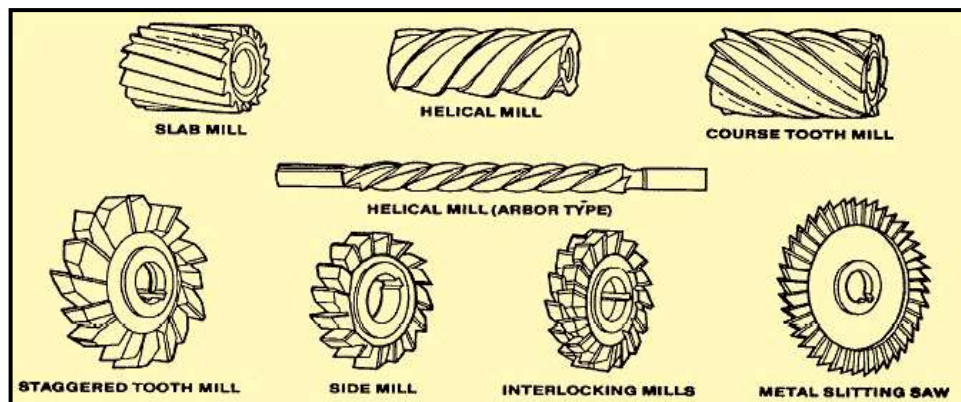

Figure 8-6. Various milling cutters.
**Metal Slitting Saw Milling Cutter:** The metal slitting saw milling cutter is essentially a very thin plain milling cutter. It is ground slightly thinner toward the center to provide side clearance. These cutters are used for cutoff operations and for milling deep, narrow slots, and are made in widths from **1/32 to 3/16 inch**. (Figure 8-6).
only, the cutter is called a half-side milling cutter and is identified as being either a right-hand or left-hand cutter. Side milling cutters are generally used for slotting and straddle milling. (Figure 8-6).
Interlocking tooth side milling cutters and staggered tooth side milling cutters are used for cutting relatively wide slots with accuracy. Interlocking tooth side milling cutters can be repeatedly sharpened without changing the width of the slot they will machine. (Figure 8-6).
**Staggered Tooth Cutters:** Have  $10^\circ$  positive radial rake and  $10^\circ$  positive axial rake (helix), right and left-hand on alternate teeth. These cutters are ground with clearance and slight concavity on the side to avoid having the side tooth drag in the cut. The positive axial and radial rake design, with alternate side teeth cutting, makes the staggered tooth cutter a free cutting tool with excellent chip disposal characteristics. (Figure 8-6).